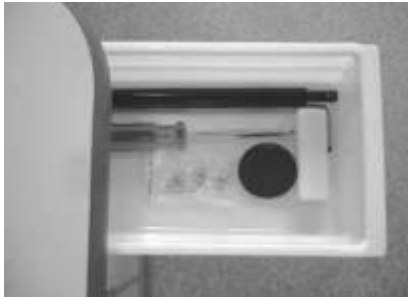

Fig.13
- ♦ Some spare parts could be stored in(Fig.13)